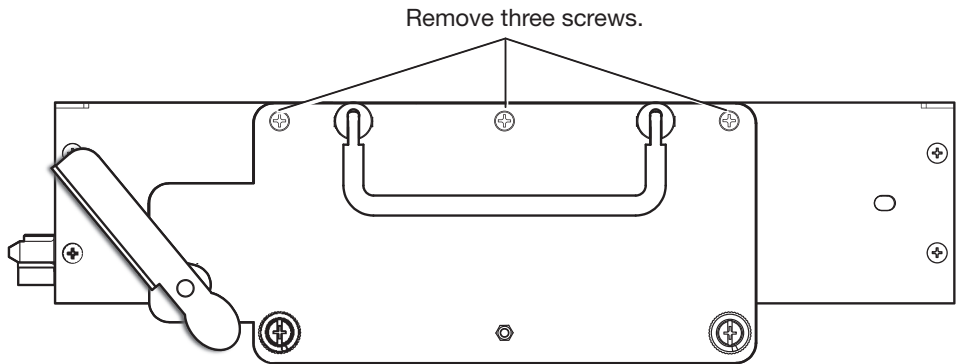

Figure 5. Removing the Plate from the Failed Redundant Power Supply Front Panel
- 2. Remove the front plate (containing the latch, handle, and thumbscrews) from the failed redundant power supply by unfastening the three round-headed Philips screws at the top of the plate (see figure 5). (Retain the front plate and screws to attach to the replacement power supply in step 5).